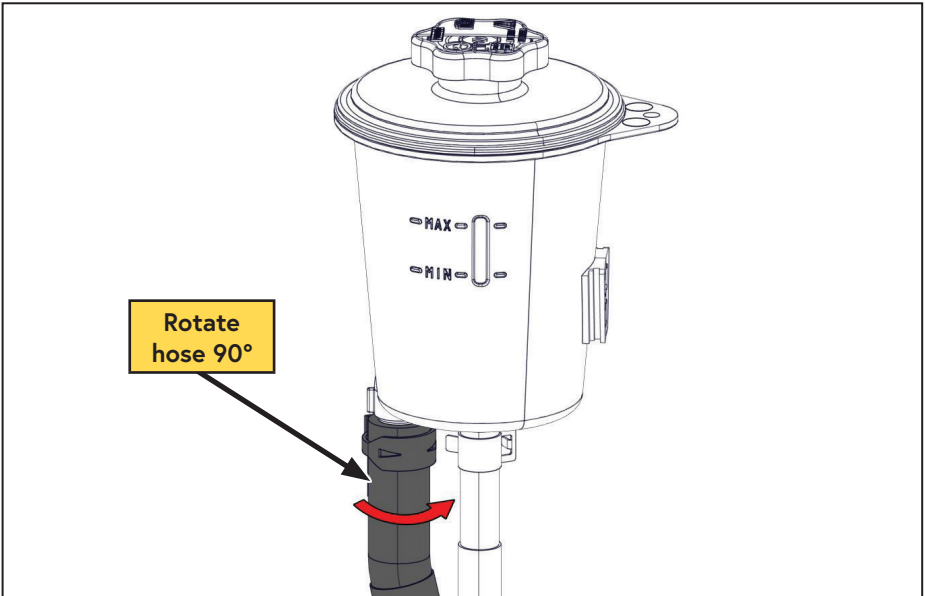

Figure 57 — Modify degas bottle
- ☐ Rotate the large hose connected to the power steering reservoir 90° counterclockwise (Figure 57).